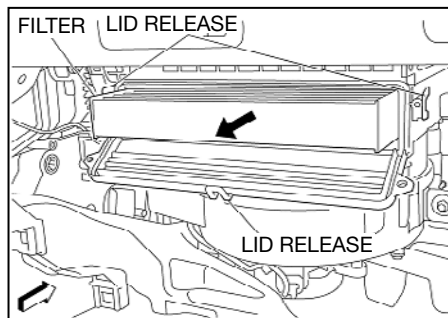

Fig. 23
3. Release cabin air filter cover (see Fig. 23).